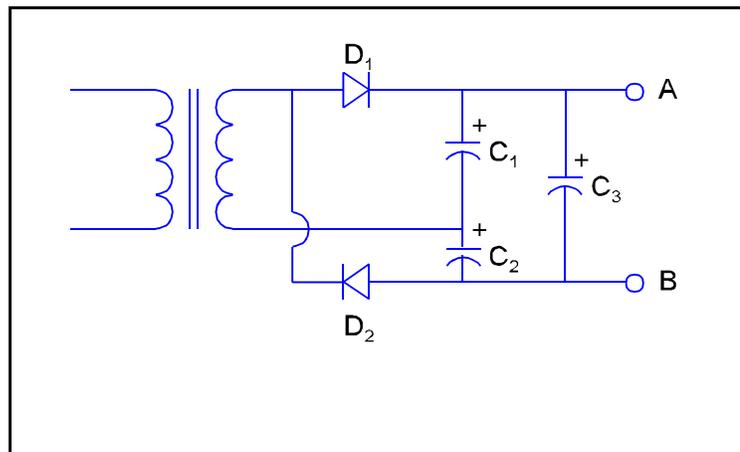

Figure 2 Full Wave Voltage Doubler
7. Now assemble the circuit shown in Figure 2 without capacitor C_3 . Use 1N4001 diodes and 47 μF capacitors.